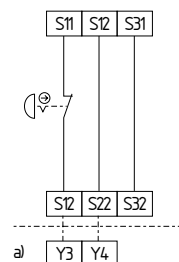

Fig. 10
**Single-channel emergency stop circuit with command devices to DIN EN ISO 13850 (EN 418) and EN 60947-5-5 (Fig. 10)**